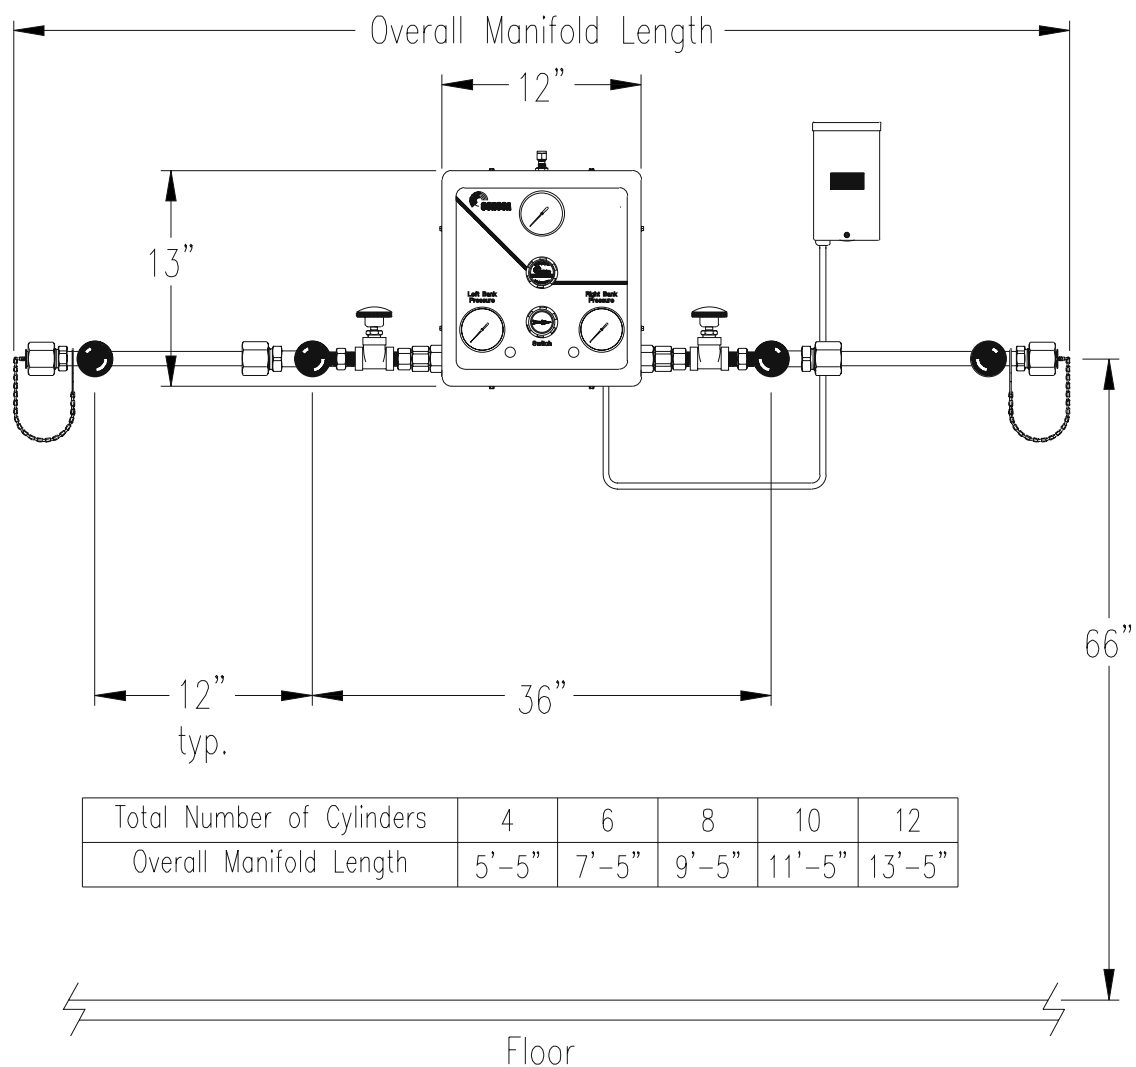

Figure 1. Manifold System
The floor space required shall be determined by the type of installation being made (see Figure 1).
*The height of 73" is recommended. Locating the AutoSwitch Console at this height will place the manifold header at approximately 66". (Figure 1).
Measure the distance from the floor to the center line of the manifold inlet connection. This is the Manifold Center Line Height. If flexible pigtails are employed, the manifold valves are to be positioned as described for single and double rows above. With the flexible pigtails, the dimensions shown on Figure 1 may be used. If the system includes an automatic console, two floor stands are supplied to support the console (see Figure 6). The hardware includes a console lower bracket that should be installed on the console utilizing the lower bolts and nuts on the rear of the console.